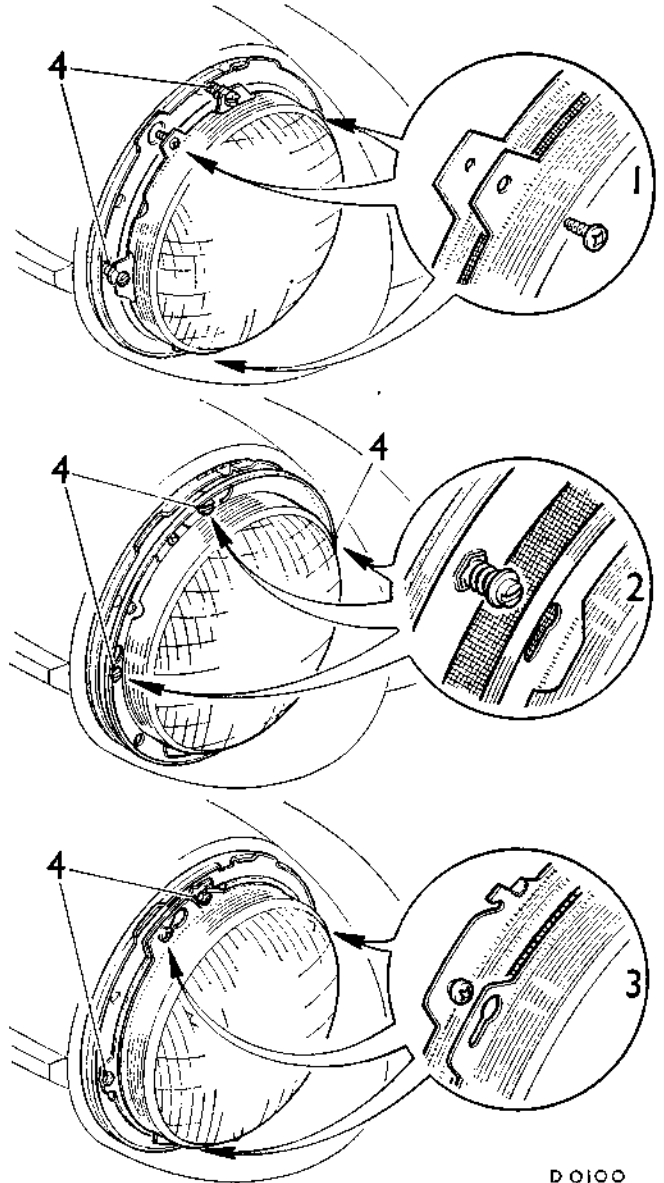
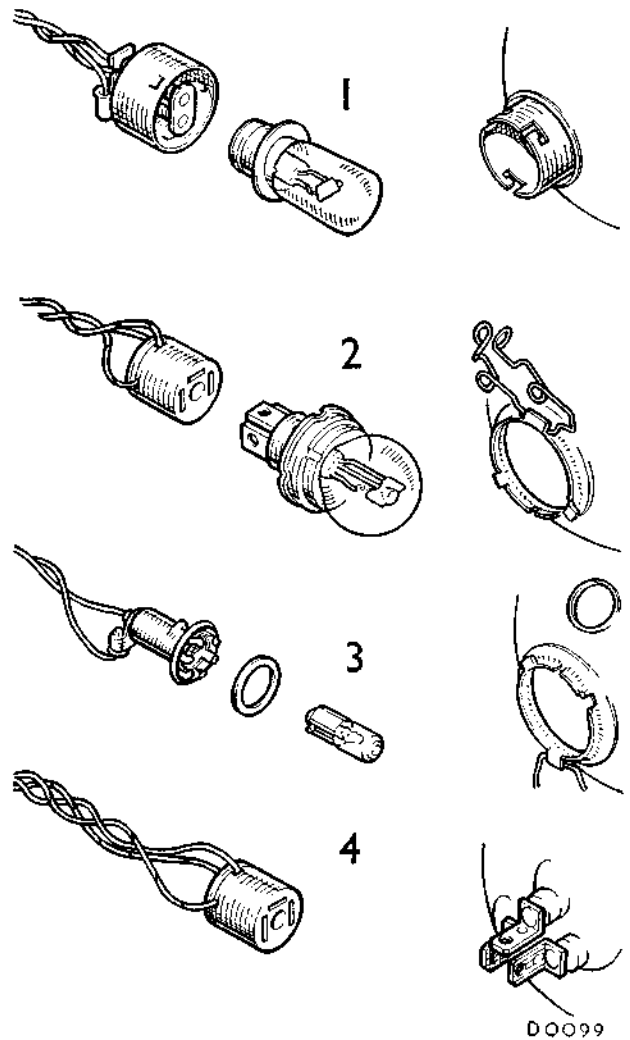

Fig. N.14
Fig. N.15
Variations within the two basic types cater for the local lighting regulations existing in the country for which the car was produced. The method of retaining and adjusting the light unit together with the type of lens and bulb used are subject to territorial variation. Fig. N.14 shows the alternative methods of retaining and adjusting the light unit and Fig. N.15 the different types of bulb fittings used.
REMOVABLE-TYPE RETAINING SCREW (1) Fig. N.14
COMBINED ADJUSTING/RETAINING SCREW (2) Fig. N.14
CAPTIVE-TYPE RETAINING SCREW (3) Fig. N.14
CAP-TYPE HOLDER (1) Fig. N.15
SPRING CLIP TYPE (2) Fig. N.15
HEADLAMP PILOT LAMP (3) Fig. N.15
22. Set the beam horizontally by turning the adjusting screw located on the right-hand side or, on some models, the adjusting screws on both sides of the lamp (see Fig. N.14) in the required direction.